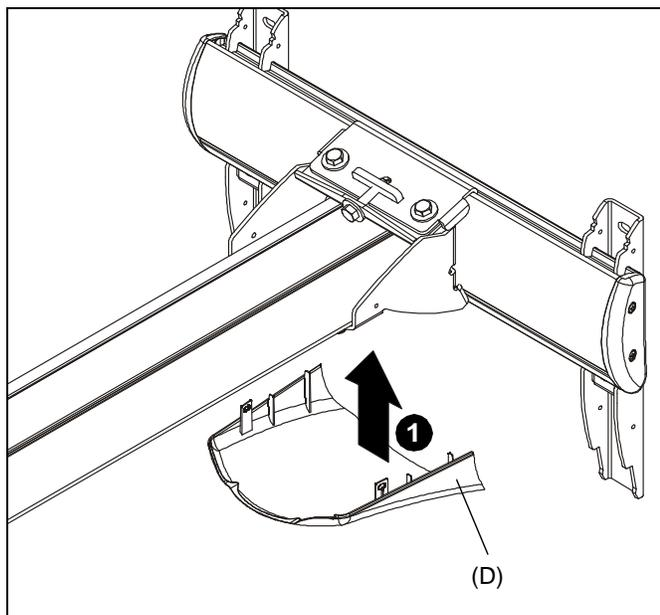

Figure 14
1. Raise the lower cover (D) to wall mount and hold in place. (See Figure 14)